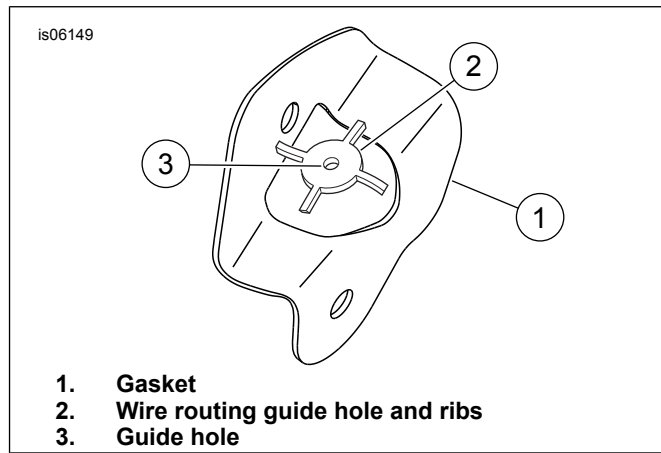
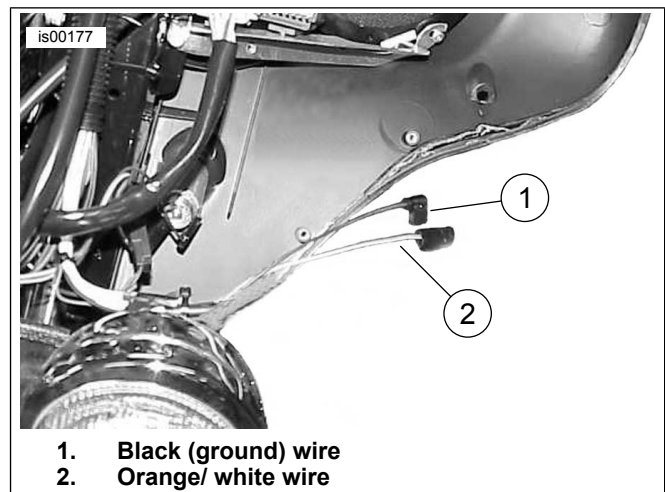
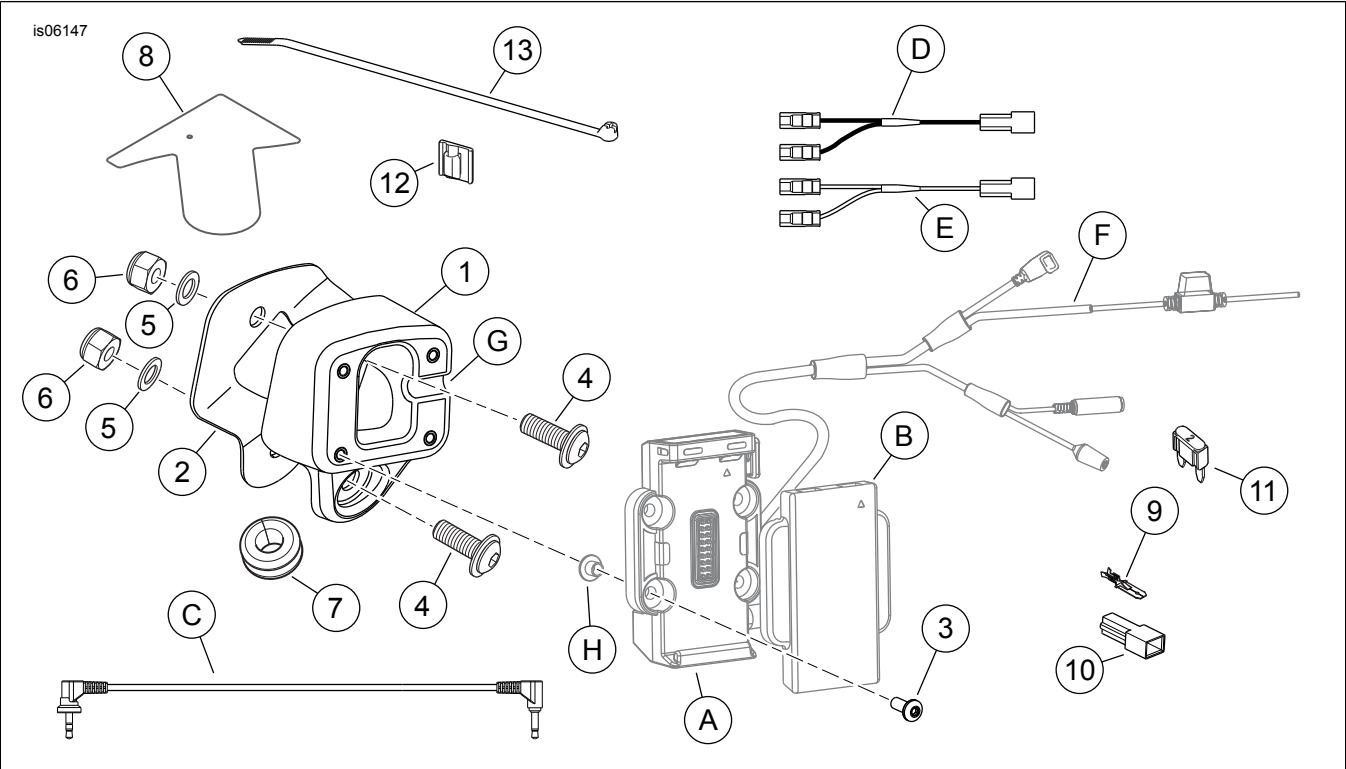

Figure 3. Remove Gasket Ribs and Guide Hole
Figure 4. Wires for GPS Connection
Figure 5. Service Parts, Road Tech 660 GPS Fairing Mounting Kit
See Figure 5 and Table 1.
6. See Figure 5. Position the gasket (2) and GPS mount (1) onto the face of the inner fairing, aligning the upper hole in the mount with the hole drilled in the previous step.
7. Temporarily install one of the screws (4) through the upper hole to help align the GPS mount.
8. See Figure 3. Mark the location of the lower mounting hole on the face of the inner fairing, using the GPS mount and gasket as a template. Mark the location of the wire routing hole using the guide hole (3) in the gasket as a template.
11. See Figure 3. Remove the wire routing guide hole and four ribs (2) from the gasket (1).
12. See Figure 5. Install the GPS mount and gasket to the inner fairing with screws (4) flat washers (5) and locknuts (6). Tighten to 5.6–6.8 N·m (50–60 in-lbs) .
1. See Figure 5. Install four bushings (H) from the GPS system kit and insert them into the back of the cradle mounting holes.
2. Position the cradle to the GPS mount. Direct the harness out through the slot (G) of the mount.
3. Insert a button head screw (3) through one of the holes in the cradle and into the corresponding hole in the GPS mount, but do not fully tighten.
4. Install the remaining three button head screws (3). Incrementally tighten the four screws to 1.58–2.26 N·m (14–20 in-lbs).
1. See Figure 4, and the interconnect harness wiring diagram in the service manual. Proceed according to the availability of the black (1) and orange/white (2) wires of the position lamp circuit [29B] of the vehicle main harness, located near the headlamp: **If the wires of circuit [29B] are unused, and the female tab connectors on the wire ends are intact:** **If the wires of circuit [29B] are already in use:**
- a. Remove the tape tying the black (1) and orange/white (2) wires of circuit [29B] to the vehicle main harness.
- b. See Figure 5. Obtain the male tab terminals (9) and housings (10) from the kit. Follow the service manual instructions to crimp the terminals onto the free ends of the Road Tech Zumo power harness (F). Insert a terminal and wire into each tab housing.
- f. See Figure 5. Obtain the multiple accessory Y-harnesses (items D and E, purchased separately).